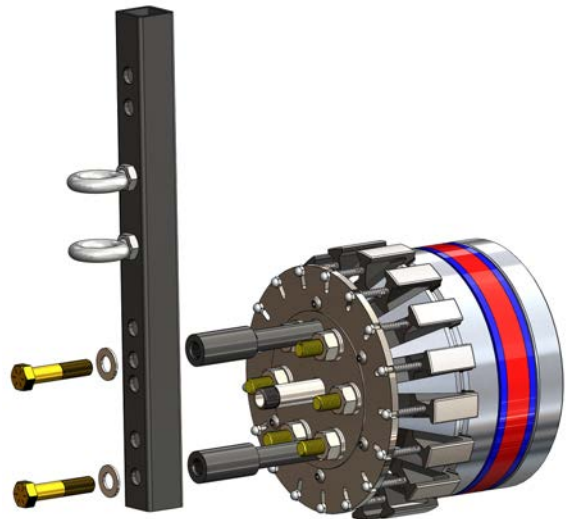

Figure 22: Aligning and fastening Telescoping Lifting Attachment on to Lifting Standoffs
12.2 Line up the holes on the **Telescoping Lifting Attachment(25)** with the internally threaded holes on the **Lifting Standoffs(26)**. Fasten the **Telescoping Lifting Attachment(25)** onto the **Lifting Standoffs(26)** with the provided **Lifting Device Bolts(27)** and **Washers(28)**. See Figure 22.